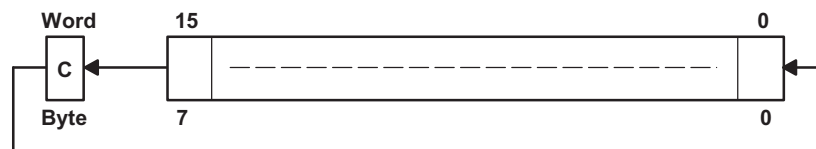

Figure 3-15. Destination Operand-Carry Left Shift
Description	The destination operand is shifted left one position as shown in Figure 3-15. The carry bit (C) is shifted into the LSB and the MSB is shifted into the carry bit (C).